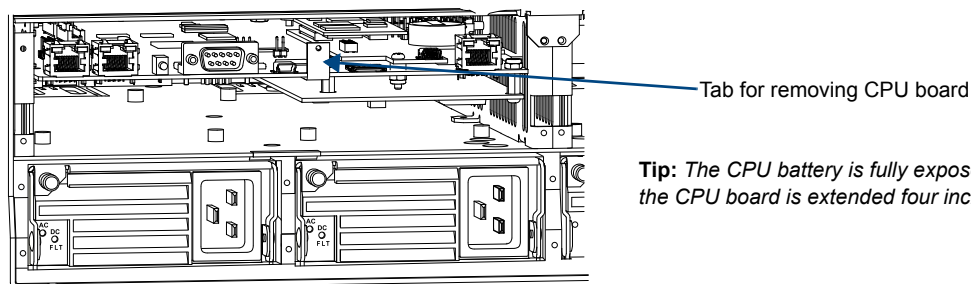

FIG. 144 Use tab to pull CPU board straight out
5. Use the tab indicated in FIG. 144 to pull the CPU board approximately four inches straight out of the enclosure.